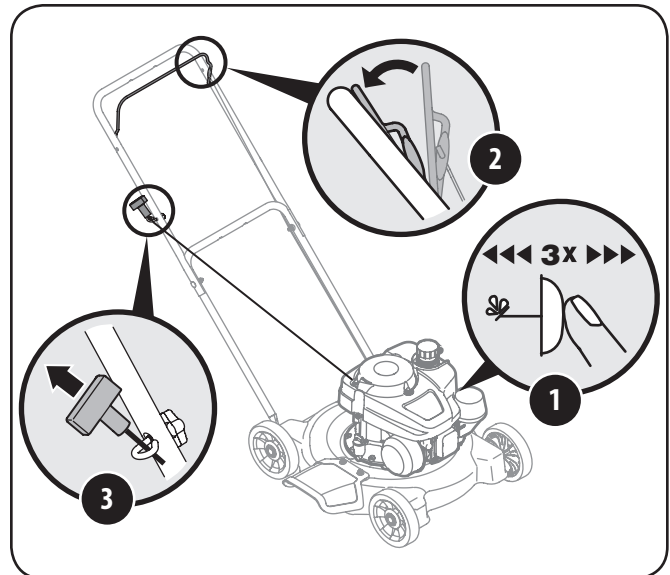

Figure 5-1
2. Standing behind the unit, depress the blade control handle and hold it against the upper handle as shown in Figure 5-1.
3. Pull the recoil starter lightly until resistance is felt, then pull rapidly to overcome compression, prevent kickback, and start the engine. Repeat if necessary. See Figure 5-1.